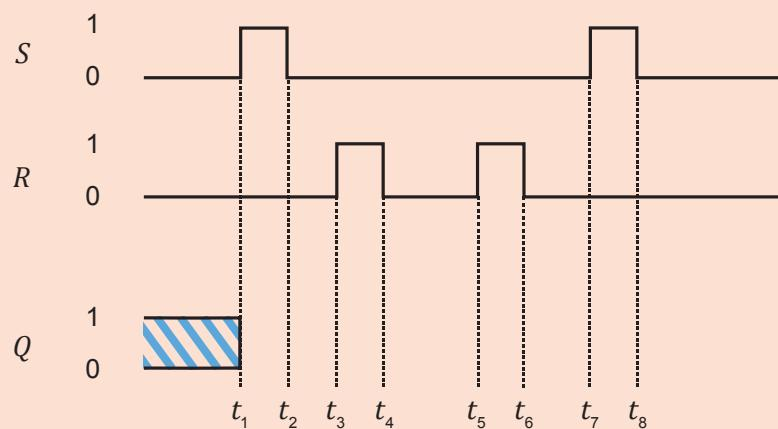

Figure 13.11
3. Complete the timing diagram in Figure 13.11 for output Q of a NOR gate S-R latch.